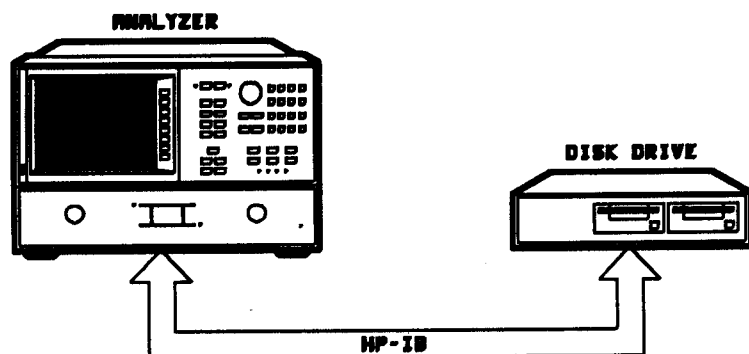

Figure 5-6. EEPROM Backup Procedure Setup
1. Connect the instruments as shown in Figure 5-6 and turn them on. Make sure the drive is set to HP-IB address 00. Then press **LOCAL** **SYSTEM CONTROLLER**.